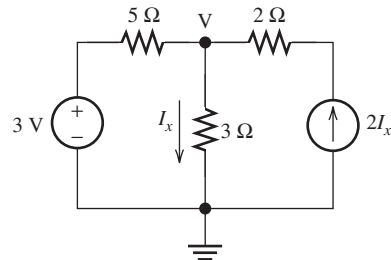

FIGURE P2.27 Circuit for Problem 2.27.
2.27 (H) Find I_x in this Figure P2.27.